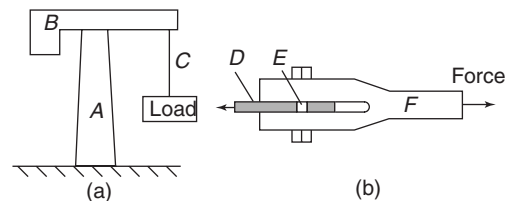

Figure 1.4
**Problem 1.** Figure 1.4(a) represents a crane and Figure 1.4(b) a transmission joint. State the types of forces acting, labelled *A* to *F*.